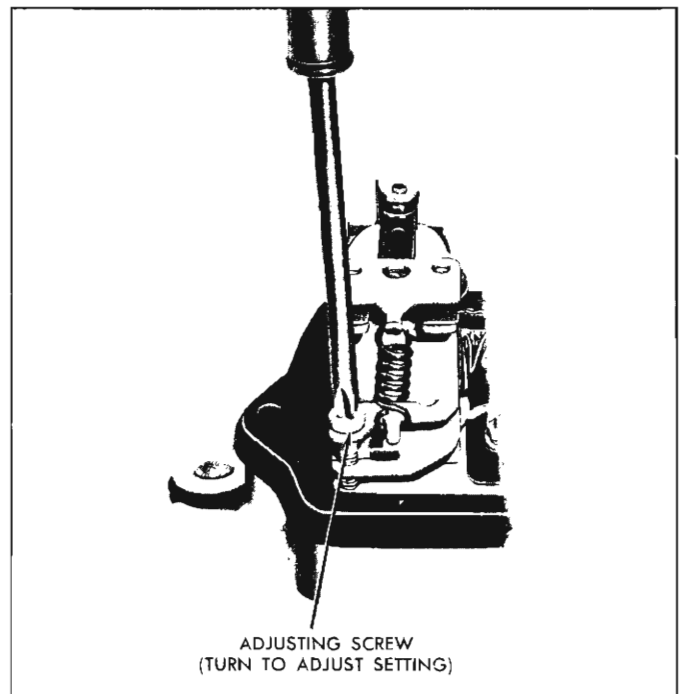

Fig. 20—Adjusting Voltage Setting
4. To adjust voltage setting, remove cover and turn screw on back of regulator unit as shown in Figure 20.